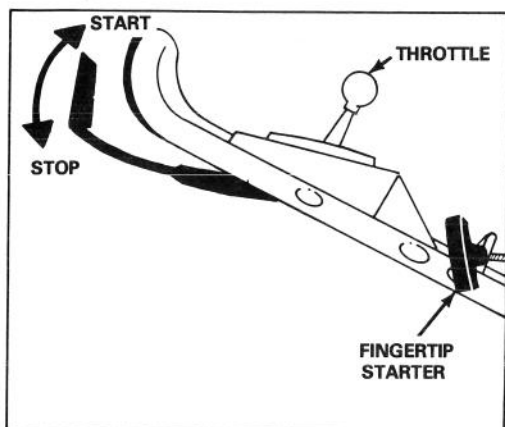

Figure 7
1. CONTROLS — Throttle, control bar and fingertip starter are on upper handle (Fig. 7).
3. STARTING — Move throttle to CHOKE and hold control bar against handle. Pull fingertip starter and regulate throttle as desired when engine starts (Fig. 7). When temperature is near 40°F, a few extra pulls may be required because the engine needs priming.